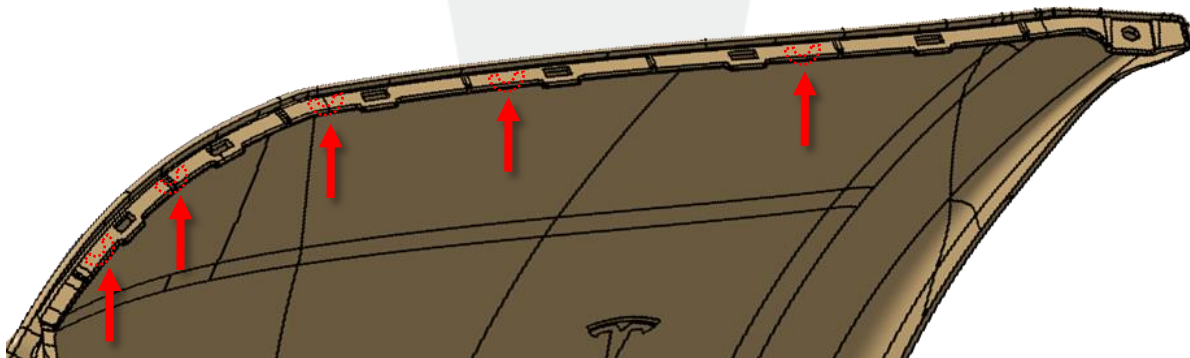

Figure 2
3. Note the proper positions of the shims on the left side of the fascia (Figure 2).